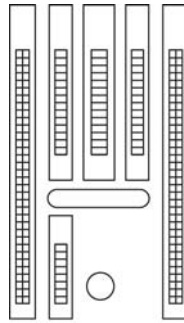
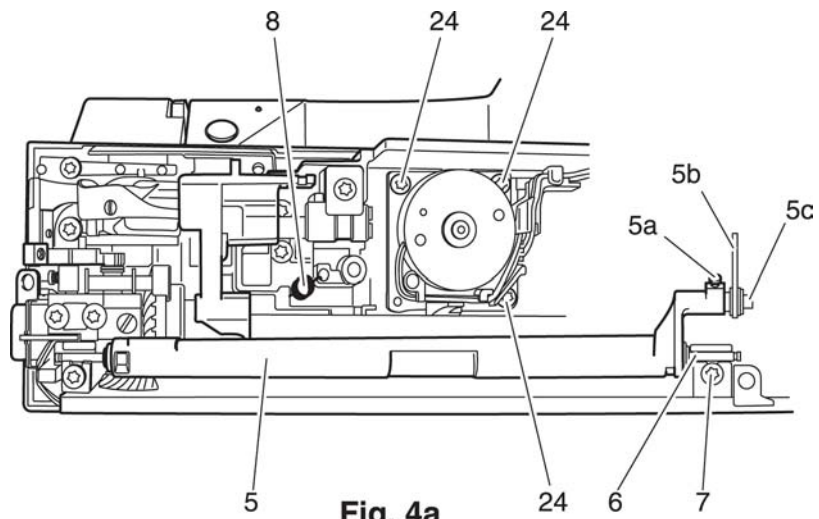

Fig. 4
Fig. 4a
With stitch program „1“, the distance of the feed dog to the right and left edges of the feeding slots must be equal (fig. 4).
- Loosen the three (Torx) screws 24 (fig. 4a) and turn the transverse-feed stepping motor until the feed dog is centered in the feeding slots (fig. 4).
- Lightly tighten the three (Torx) screws 24 (fig. 4a).
- If the adjustment is correct, tighten Torx screws 24 (fig. 4a).